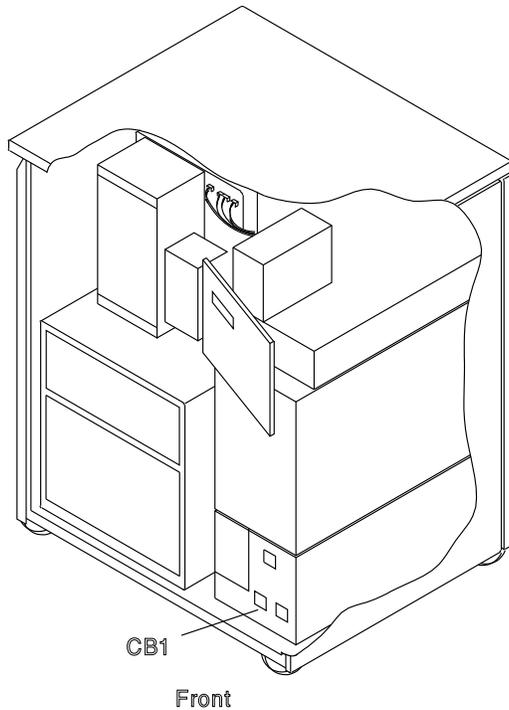

Figure 4-82. CB1 Location
4. **Switch CB1 OFF.** Refer to Figure 4-82.